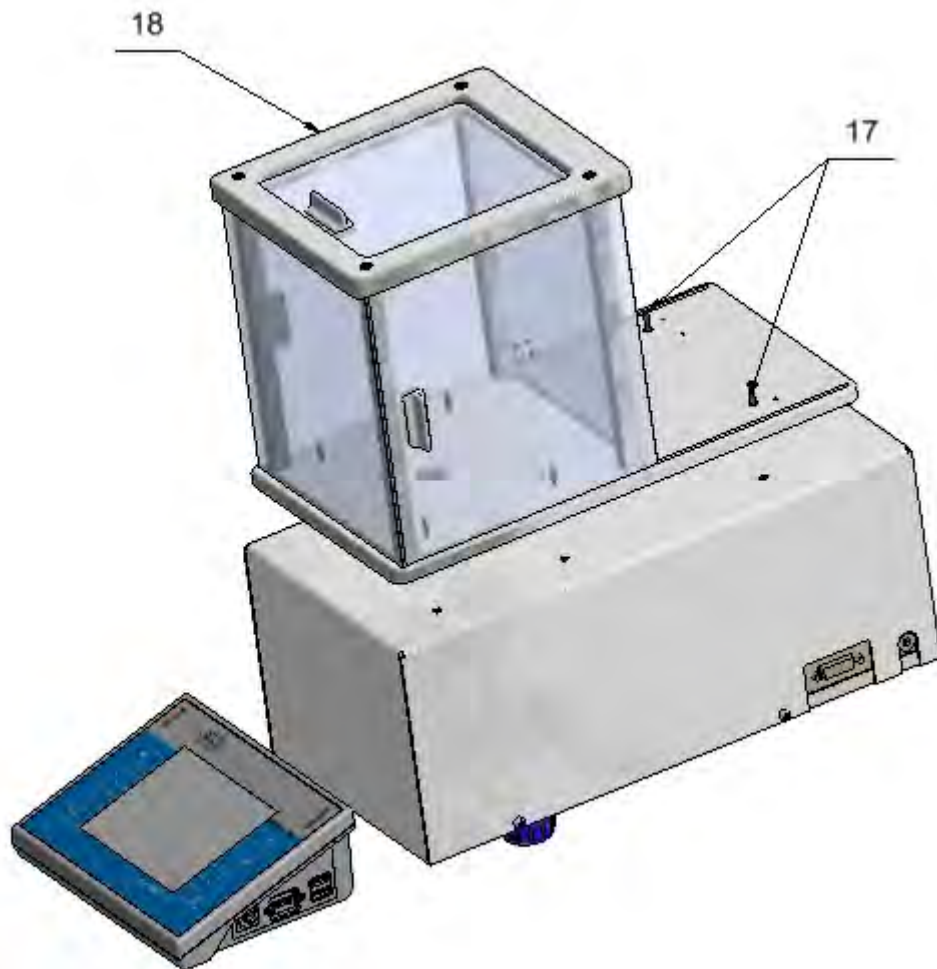

Fig.4
11. Using six M3 screws (17) fix draft shield (18). (Fig.4)